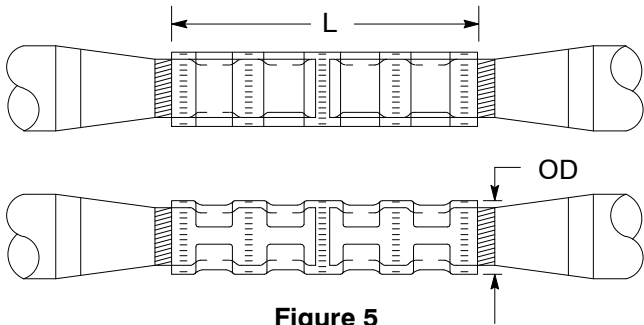

Figure 5
2. Connectors shown in Figure 5 on Page 11 are to be used to connect cables of up to 35 kV rating or lower, and can be used on bare cables where such cables will not be subjected to tension.